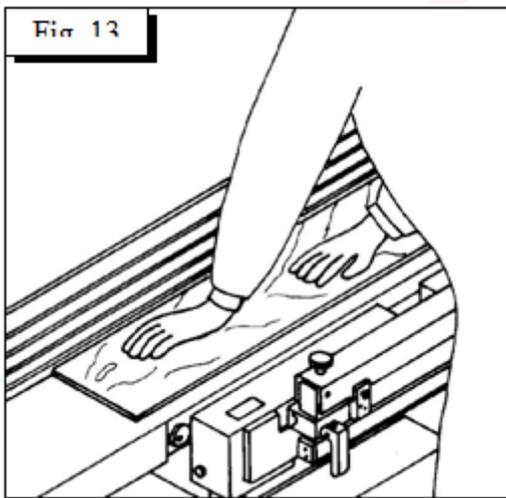

Fig. 13
- As soon as practicable, the piece is pushed forward only on the exit board (fig. 13).